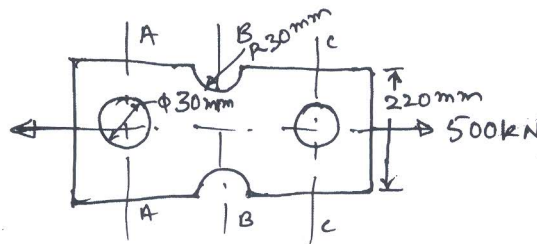

Fig.Q1(b)
b. A bar of rectangular section as shown in Fig.Q1(b) is subjected to an axial pull of 500 kN. Calculate its thickness if the allowable stress in the bar material is 200 MPa.